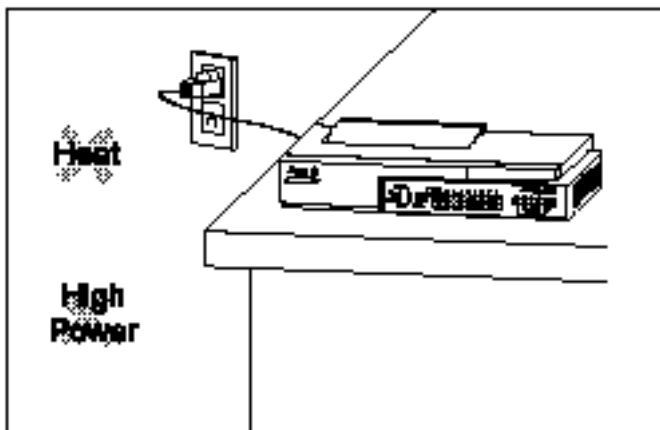

Figure 2-6 Lay hub on stable desktop
2.2.1 Put the hub on a stable working surface, as shown in *Figure 2-6*.